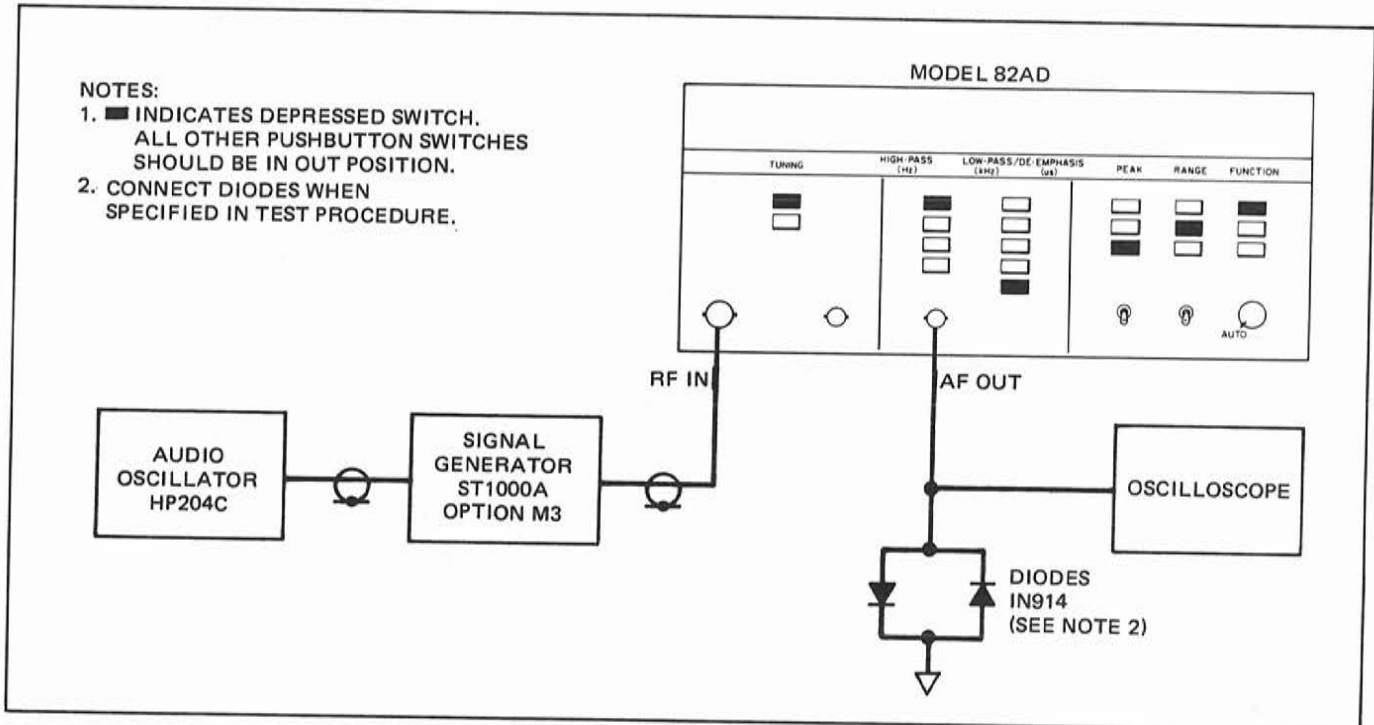
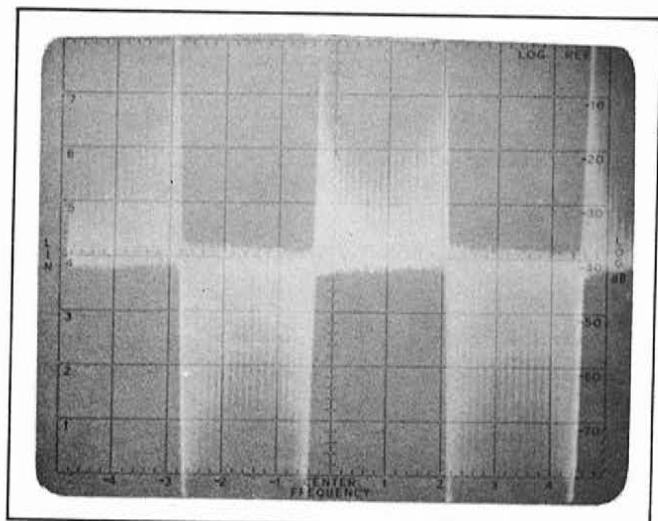

Figure 2-12 Stereo Separation Check, Test Setup
Figure 2-14 Stereo Separation Check, Oscilloscope Display
- a. Connect the Model 82AD and test equipment as shown in Figure 2-12. Do not connect the diodes at this time.
- d. Set the Model 82AD LEVEL control to the AUTO position. Depress the Model 82AD switches indicated in Figure 2-12.
- g. Connect the diodes across the Model 82AD audio output circuit as shown in Figure 2-12. Increase the oscilloscope sensitivity 10 times. The oscilloscope display should appear as shown in Figure 2-14.